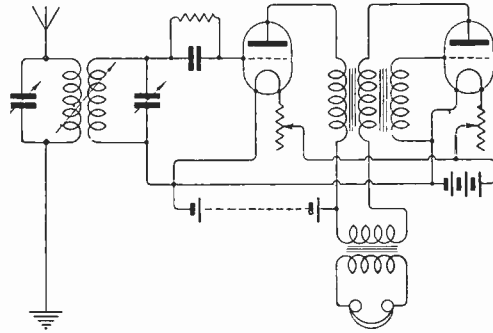

Fig. 3.
*Fig. 3. The spark gap, with ventilated revolving electrodes, and arranged so that the total sparking distance is synchronously broken down by the discharge a condenser bank separate from the main oscillator.*
Fig. 3 shows a similar circuit using a special intervalve transformer consisting of three windings, the third, or reaction winding being wound over the secondary. The primary and secondary are similar to the ordinary type of intervalve transformer, but with a ratio 1 to 1, whilst the reaction winding has about half the number of turns.